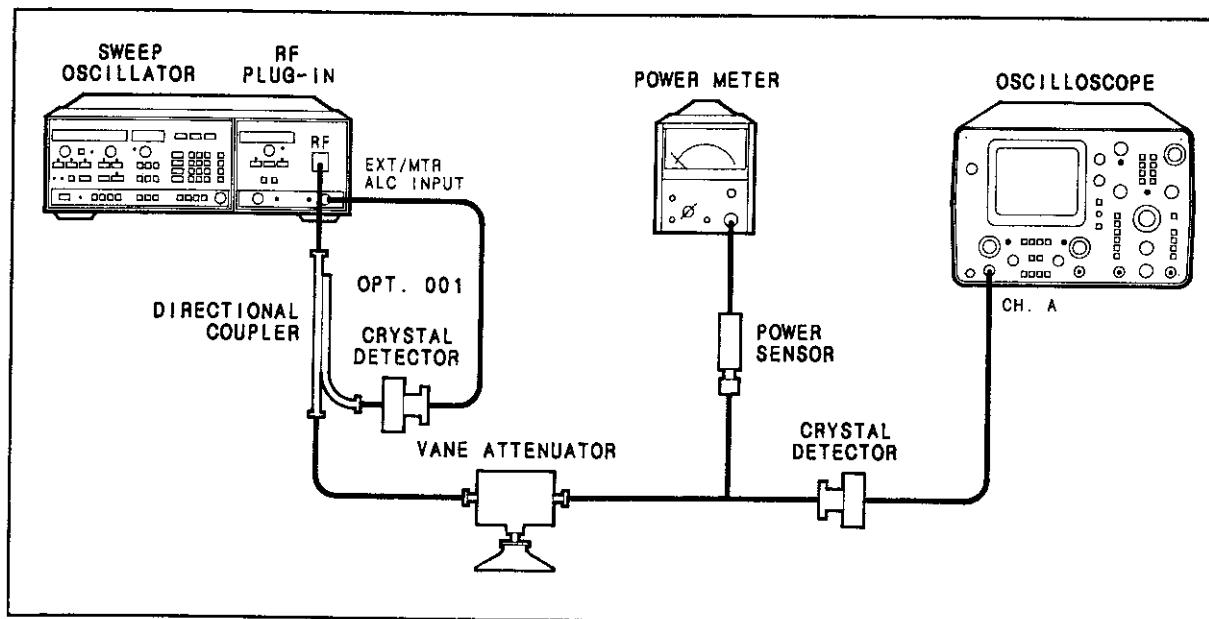

Figure 5-14. Internal Leveled Flatness Adjustment Setup
1. Remove the A5 FM Driver Assembly from the Plug-In. Set the vane attenuator to 14 dB. Connect the power meter and sensor through the vane attenuator to the RF Plug-In as shown in Figure 5-14.
11. Replace the A5 FM Driver Assembly in the Plug-In. Connect the equipment as shown in Figure 5-14, with the crystal detector/oscilloscope monitoring the RF output. Press 8350A/B **[INSTR PRESET] [SHIFT] [DET]**. The trace displayed by the oscilloscope represents the flatness across the full sweep of the HP 83572A/B. Adjust the **POWER LEVEL** so the start of the oscilloscope trace coincides with the calibration line.